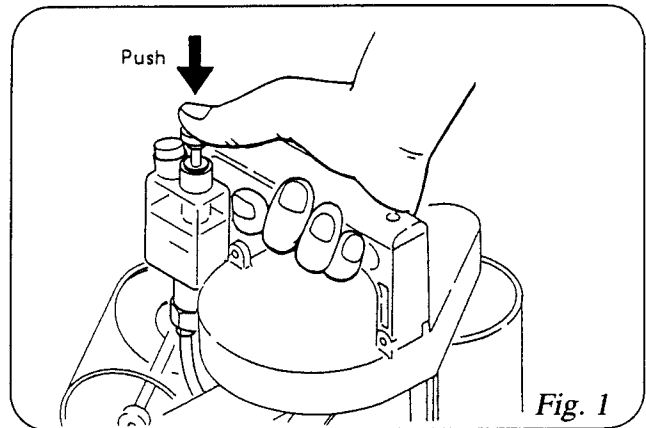

Fig. 1
- Confirm that the machine has been lubricated as per Fig.1 in the manual.
### 1. Oiling (Fig.1)